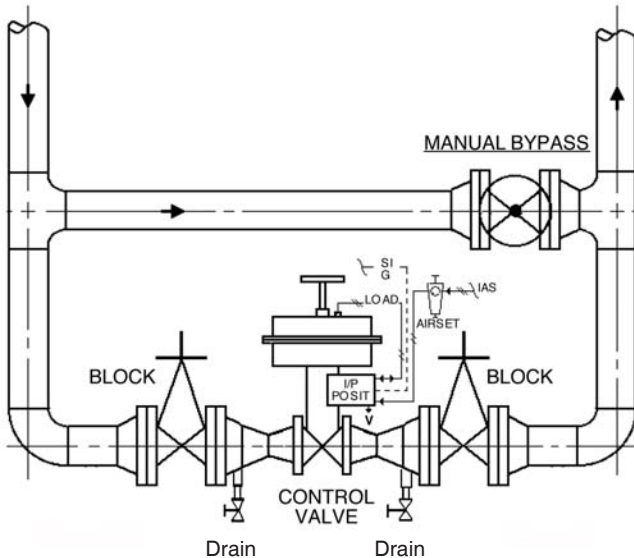

Figure 1: Typical Control Valve Station
1. It is recommended that the control valve unit be installed with a double-block and bypass as indicated in Figure 1. This arrangement is recommended especially where maintenance will be done on the valve body while still installed in the pipeline.
2. Recommend startup to be in a “manual” mode. This procedure assumes double block (isolation) and bypass valves for the “control valve station”. See Figure 1.